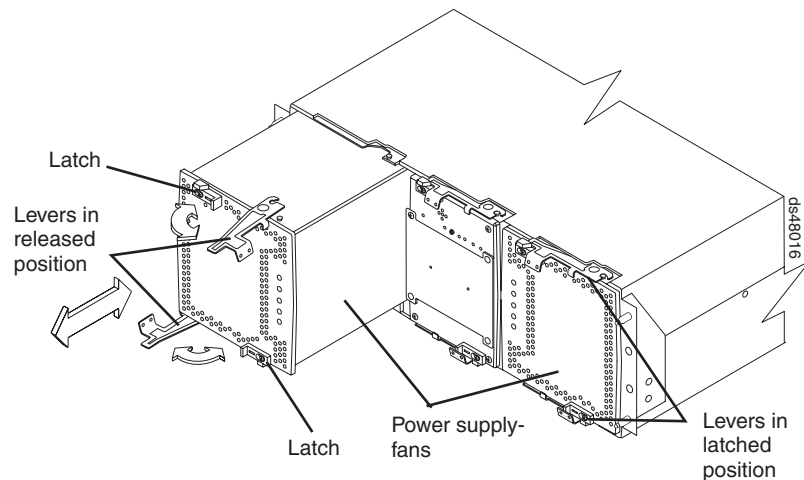

Figure 93. Removing a power supply and fan unit from the DS4800
9. Unlatch the top and bottom levers on the failed power supply and fan unit. Rotate both levers out simultaneously and remove the failed power supply and fan unit. (Figure 93 on page 155 shows a power supply and fan unit sliding from the storage subsystem chassis.)